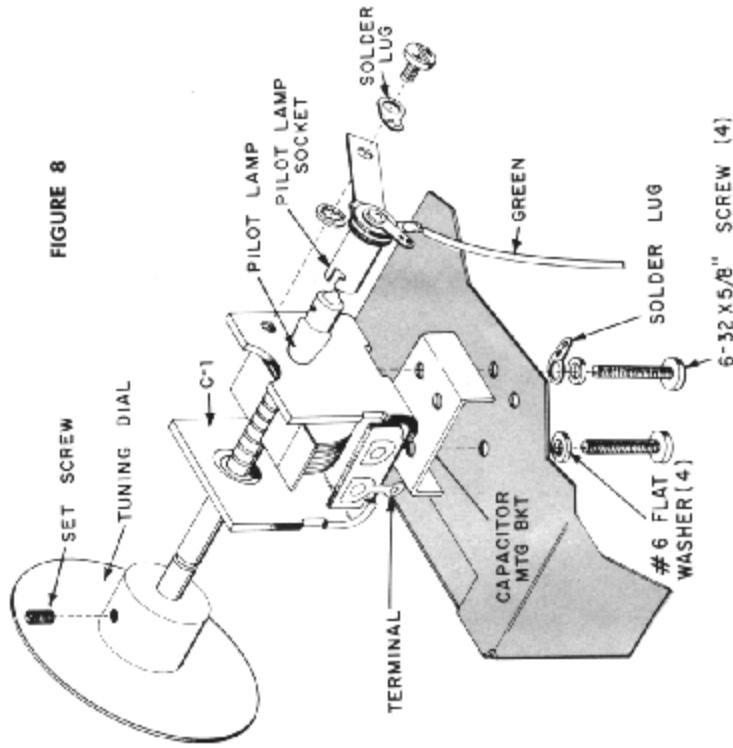

FIGURE 9
- C-2, trimmer capacitor. Bend the lugs at right angles so they fit into the holes in the chassis. Mount from the top of the chassis with two 4-40 x $\frac{1}{8}$ " screws, a lockwasher, a solder lug and two nuts. Mount the solder lug on the screw closer to TS-2. Caution: Do not over-tighten these screws. See Figure 9 for a top view of the chassis and C-2.
SEE FIGURE 9.